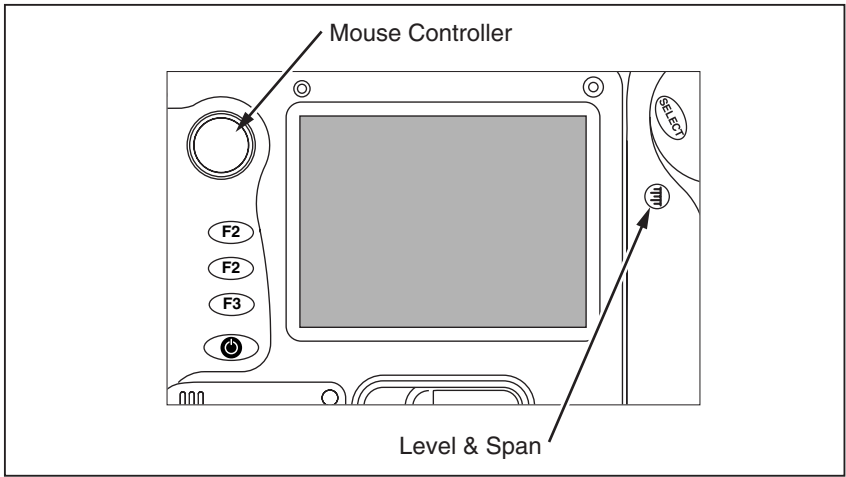

Figure 1-7. Setting the IR Fusion Blend Level
2. While continuing to press , use the MOUSE controller shown in Figure 1-7 to slide the IR Fusion blend level bar in the control box to the desired setting.